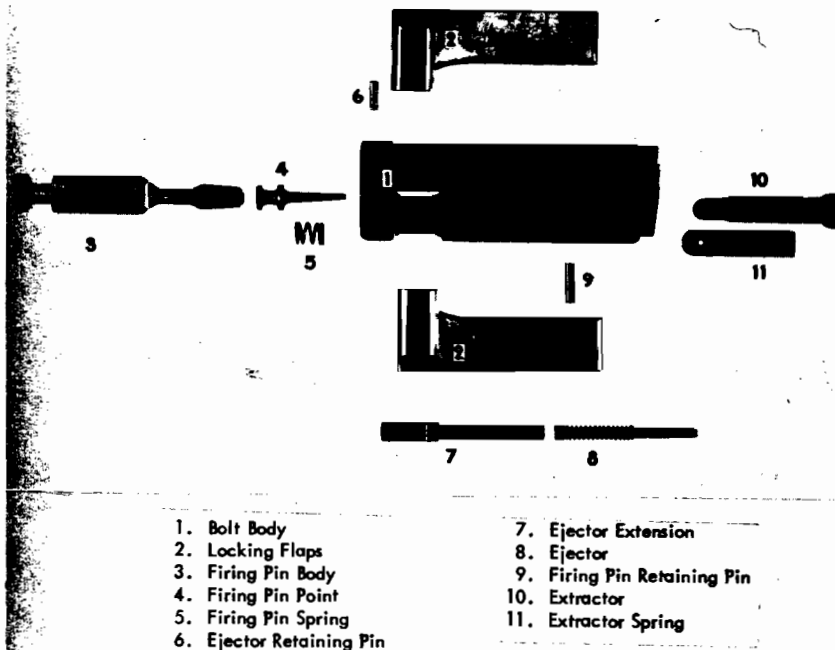

Figure 61. Degtyarev bolt, typical.
h. To commence reassembly, place the locking flaps (fig. 61) onto the bolt and insert the firing pin into the bolt. The lug on the firing pin should contact the rear of the bolt, and the rear of the locking flaps will project below the bottom of the bolt. Place the bolt onto the slide, mating the firing pin with the fork at the rear of the slide. Push the bolt forward on the slide so that the locking flaps are flush with the sides of the bolt.